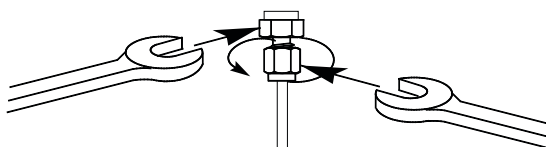

Figure 28. Final tightening
- 8 For 1/8-inch Swagelok fittings, use a pair of 7/16-inch wrenches to tighten the fitting 3/4 of a turn. See **Figure 28**.
For 1/4-inch fittings, use a pair of 9/16-inch wrenches to tighten them 1-1/4 turn, as shown in **Figure 28**.